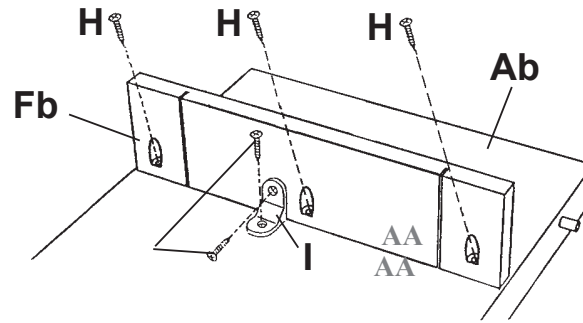

Fig. 3
3. To help you position the Leaf Aprons in their proper locations, the leaf and leaf aprons have been punched with matching letters (**AA/AA**, **BB/BB**, **CC/CC**, **DD/DD**). Insert one #8 x 1¼" Pan Head Screw (H) into the pocket drilled holes in each Leaf Apron (Fb) and fasten securely. See Figure 3. To increase support for the leaf aprons, fasten a Brass Angle Brace (I) just to the left or right of the center hole of the aprons with #10 x ¾" Brass Oval Head Screws (J). See Figure 3.